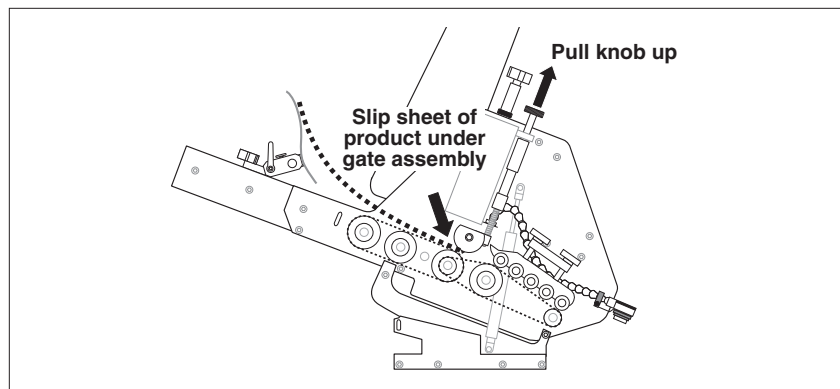

Figure 2-1. Lifting Gate Assembly Upward to Insert Product
1. Slide a single sheet of sample product under the gate assembly. You may have to pull up on the adjustment knob to allow the product to be inserted (Figure 2-1).